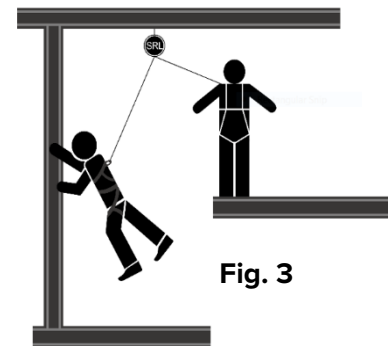

Fig. 3
6. Ensure the anchorage provides the Minimum Required Fall Clearance (MRFC) in the fall path below the working / walking surface to prevent contact with a lower level or obstructions if a fall occurs. Rig to prevent or minimize swing fall hazards that occur when the anchorage is not positioned directly above the point at which the fall occurs (see Fig. 3). To minimize swing falls, anchorage points should be directly overhead or work as close to the anchorage point as possible.